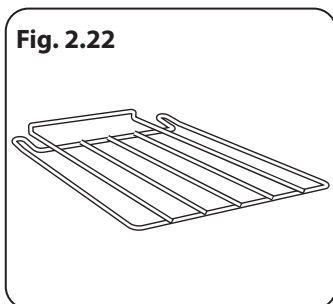

Fig. 2.22
- 4 flat cooking shelves (**Fig. 2.22**)